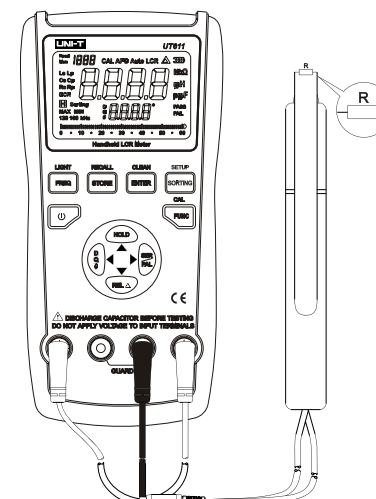

Figure 9
- 3) Connect resistance to the testing terminal or connect the corresponding accessory to the measured resistance (As shown in Figure 9).